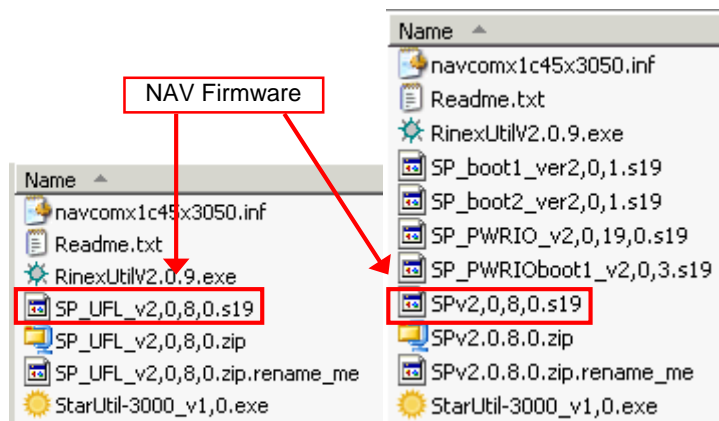

Figure 58: Firmware Folder Contents
3. Browse to the NavCom\Firmware folder on the PC (see Figure 58).
4. The Firmware folder is copied from the SF-3040 Product Configuration USB Flash Drive or the SF-3050 Product Configuration USB Flash Drive. It contains the most current firmware (see example files in Figure 58). The firmware file extension is *.s19.